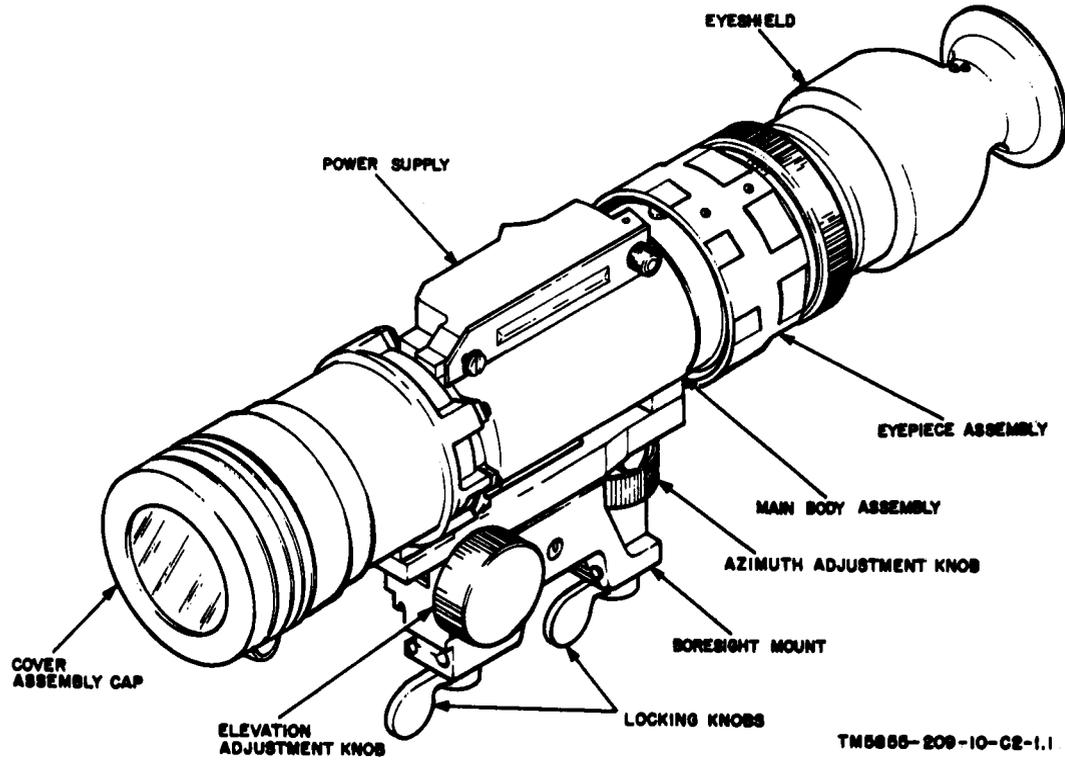

Figure 1-1.1 Night Sight, front left view (AN/PVS-3A).
Add figure 1-1.1 after figure 1-1.
(AN/PVS-3A only, fig. 1-1.1).
b. Lock the night sight on the mount assembly with the lock knobs (fig. 1-1.1).